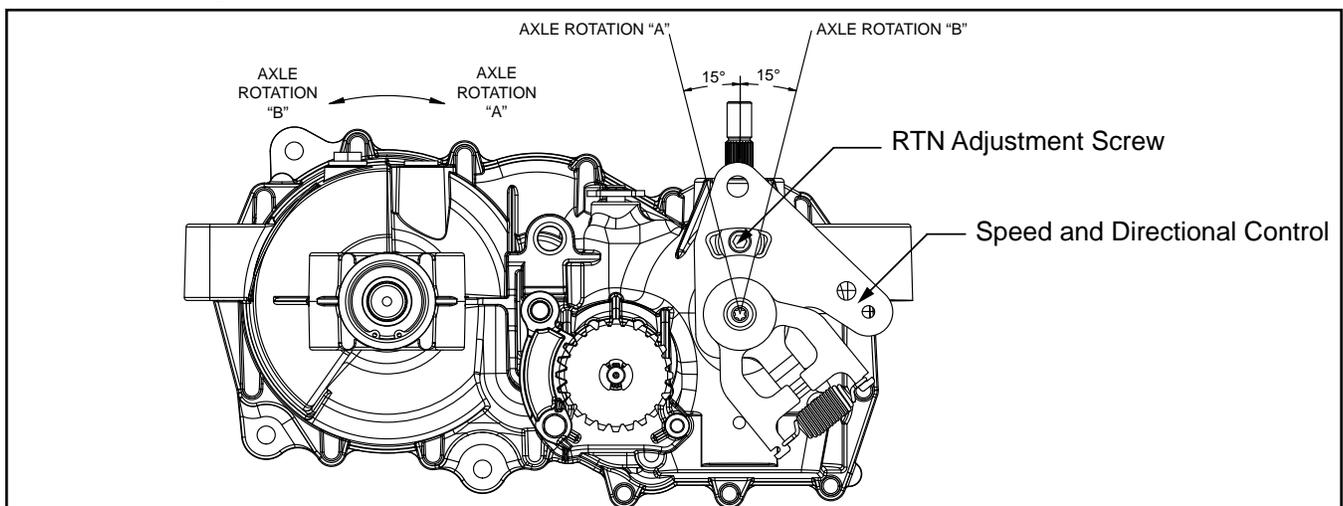

Figure 5. Return to Neutral Setting
2. Remove the Original Equipment Manufacturer's (OEM's) control linkage at the control arm. Refer to Figure 5.
5. Stop the vehicle's engine. Reattach and adjust the OEM linkage according to Step 3 and Step 4. Stop the vehicle engine. Refer to Figure 5.
6. Note the axle directional movement. Stop the vehicle engine. Loosen the RTN adjustment screw until the control arm can be rotated. Rotate the control arm in the opposite direction of the wheel rotation in 5 degree increments. Tighten the RTN adjustment screw. Refer to table 6. Required Torque values, page 14. Recheck according to steps 3 and 4. Stop the vehicle engine. Reattach and adjust the OEM linkage according to the OEM manual. Recheck according to steps 3 and 4. Refer to Figure 5.